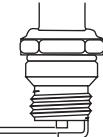

Fig. 48
1. Stop the engine and allow it to cool. Remove the six (6) screws on the back of the engine cover with a Flat-head or T-25 Torx screwdriver (Fig. 48).
4. Replace cracked, fouled or dirty spark plug. Set the air gap at **0.025 in. (0.635 mm)** using a feeler gauge (Fig. 48).